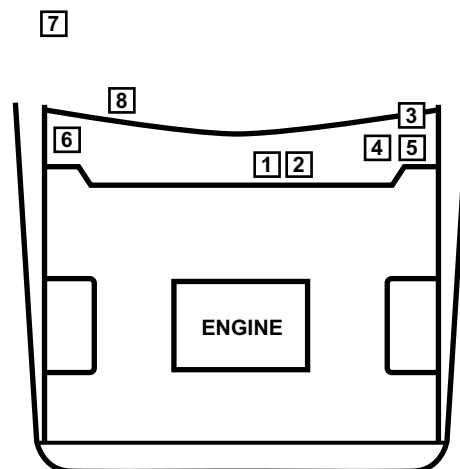

Figure 15-5 1990–94 Legacy and 1993–95 Impreza 1.8L common connector locations
- “1990–94 Legacy and 1993–95 Impreza 1.8L common connector locations” on page 168 (Table 15-5, Figure 15-5)